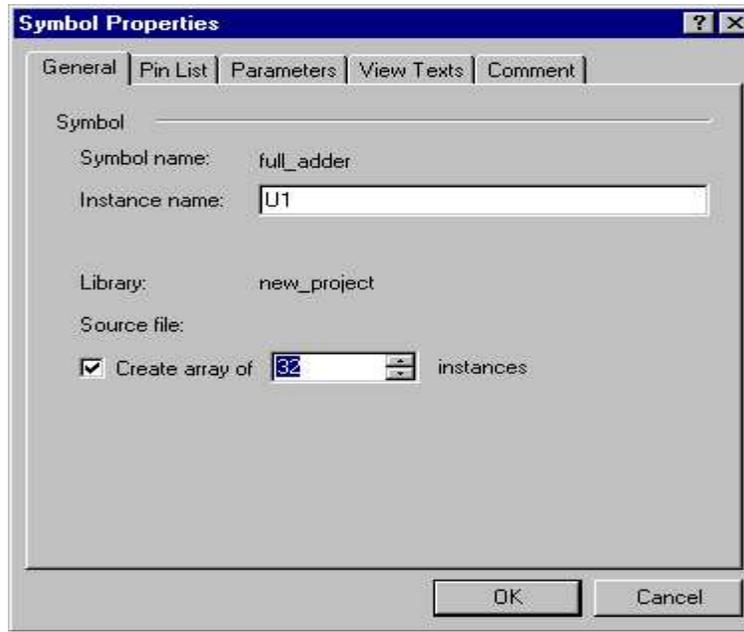

Figure 12
4. Under the heading “Source file”, select the “Create an array of (#) instances”, and enter 32 in this field (see Figure 12).
5. Under the “View Texts” tab (shown in Figure 12), check the box next to the “Array Value” option. Then click the OK button.